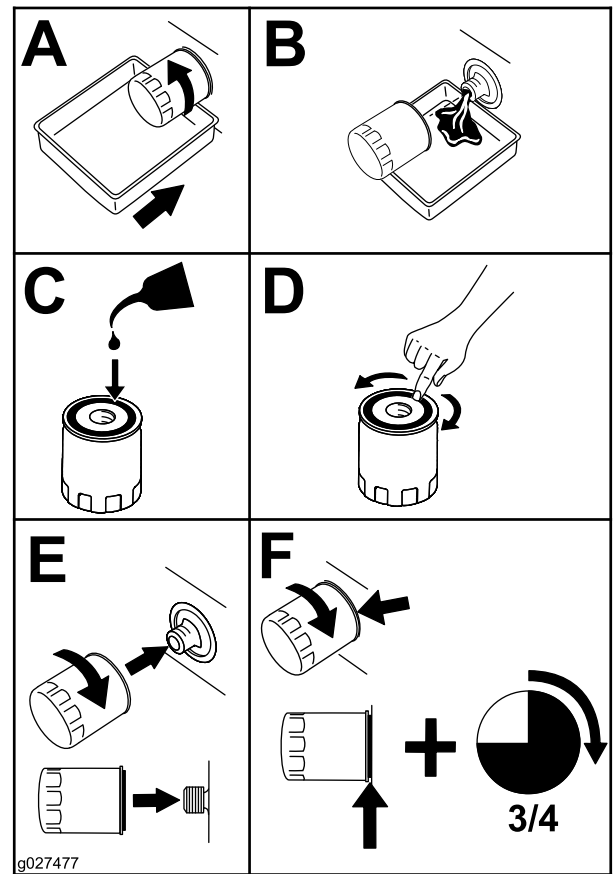

Figure 34
5. Change the engine-oil filter (Figure 34).